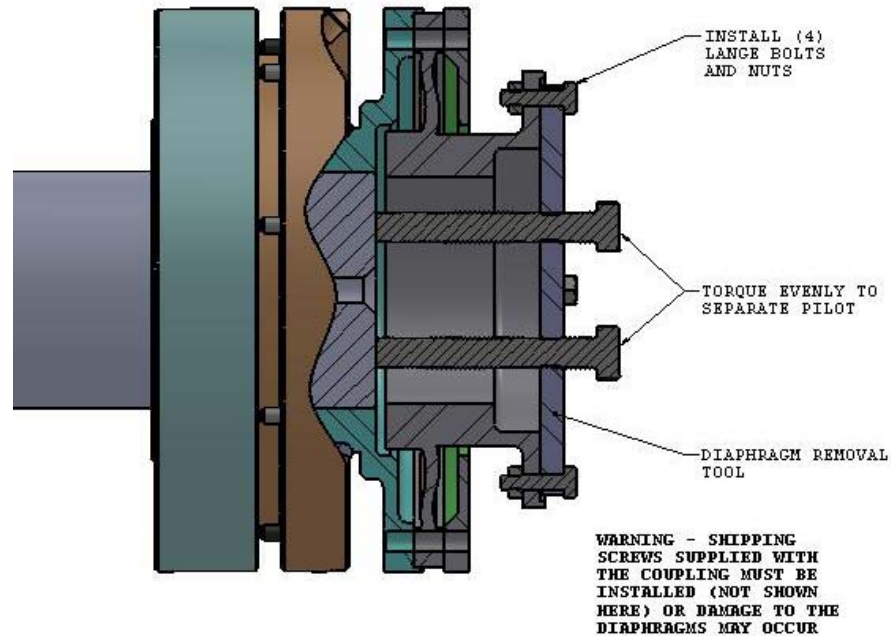

FIGURE 8: Use of the Diaphragm Removal Tool
4.2.3 A removal tool is provided with the coupling that allows the pilots to be separated from the flange end. Place the tool as shown in Figure 8. If the 1/2 inch hex bolts contact the shaft before the disc contacts the flange face, loosen the 1/2 inch bolts.
4.2.4 Install (4) of the flange bolts that were previously removed to secure the tool. See Figure 8.